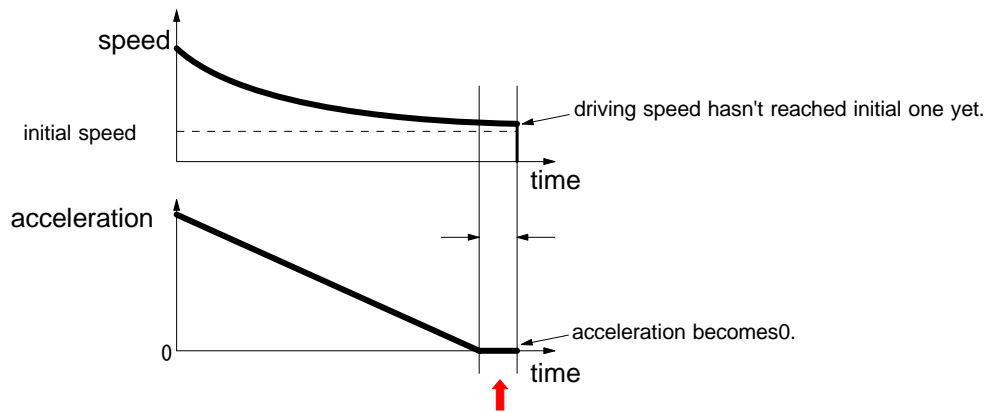

Figure 2. Driving speed and acceleration just before driving completion
- ① When decelerating stop command (26h) was given just before finishing driving
- ② When setting stop mode of hardware limit (nLMTP/M signal) as decelerating stop (WR2/D2=1), driving is started and hardware limit of progress direction becomes active just before finishing driving
- ③ When software limit is enabled (WR2/D0, 1=1), driving is started and hardware limit of progress direction becomes active just before finishing driving
- ④ When nSTOP(2~0)signals are enabled(WR1/D5,3,1), fixed pulse driving is started and those signals become active just before finishing driving
Fixed pulse driving in S-curve acceleration/deceleration is performed as that driving speed and initial speed becomes equal and acceleration becomes zero (0) when driving finished, which means all pulse outputted. But it's impossible to make driving speed & initial speed equal and acceleration zero (0) in all combinations of parameters because of the problem of calculation accuracy. This trouble will happen if it is in the above mentioned occasion ①, ②, ③ or ④ as the factors of deceleration stop accidentally and driving speed hasn't reached initial speed yet but acceleration has become zero(0) showing on Figure 2.